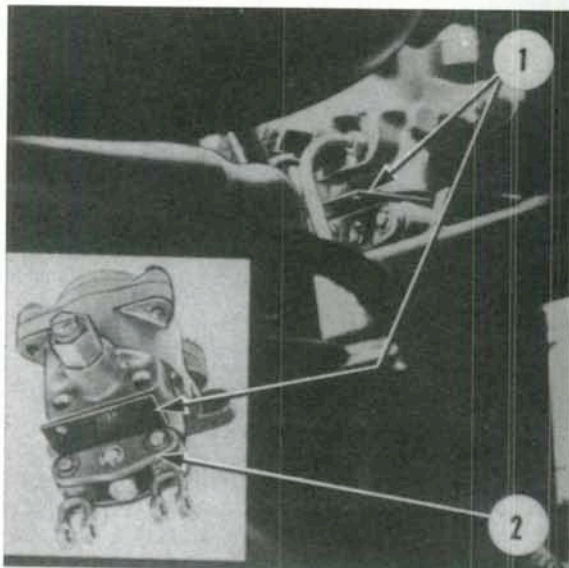

Fig. 246—View of Ford brake adjusting tool No. 7446 (1) installed between rocker arm links (2) and valve body. See text for brake adjustment on Model TW-35.
**177. ADJUSTMENT.** With the engine off, depress both brake pedals and insert special tool No. 7446 (1—Fig. 246) between rocker arm links (2) and power brake valve housing. Loosen adjusting nuts (1—